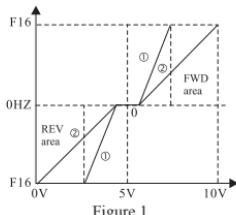

Figure 1
* Please refer to Figure 1, 2 & 3 and see the description of parameters in the table below :
- ① In Figure 1, F63 set value is 4 for the display of input analog signal, F65 set value is 16384, reference standard point is Ai × (F53, F54) gain value), and the highest corresponding value of AO analog signal output is DC+10V.